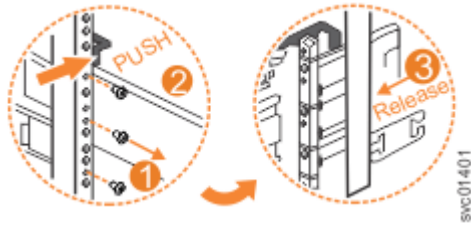

Figure 97. Remove the rail assembly from the rear frame bracket
3. Remove the two screws that attach the inner rail section to the rear bracket, as shown in Figure 97 on page 141.
4. Pull the rail forward away from the rear bracket, as shown in Figure 97 on page 141.